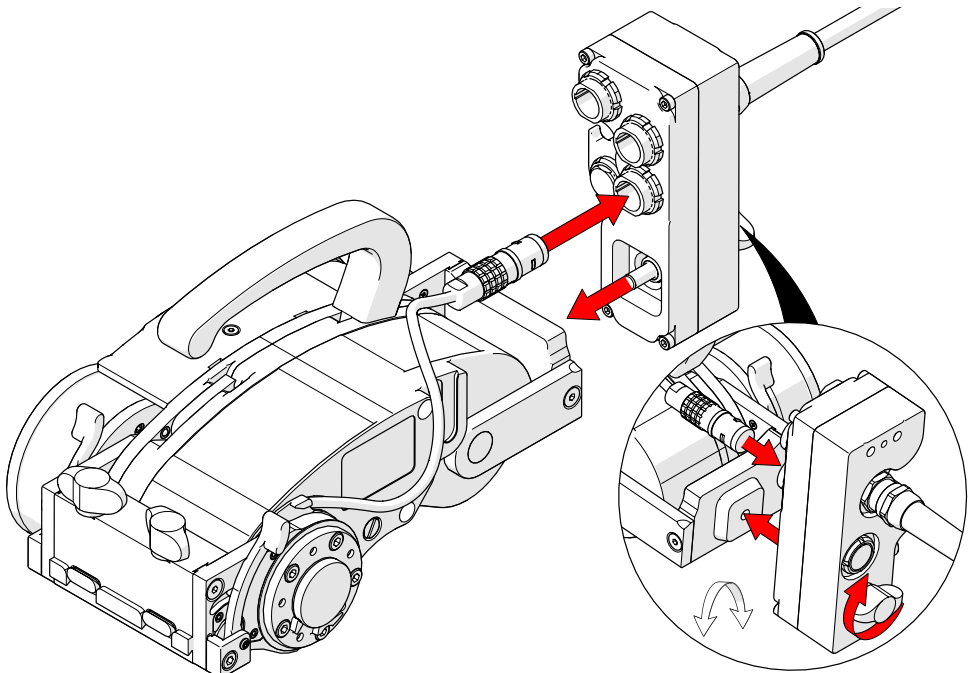

Fig. 187 - Mount the umbilical at 90° from standard mounting angle
2. Mount the umbilical at a 90° angle to the right drive module (see *"Umbilical"* on page 60), tighten the black wing knob (Fig. 187).
3. Plug in the right drive module's connector to the umbilical (Fig. 187).